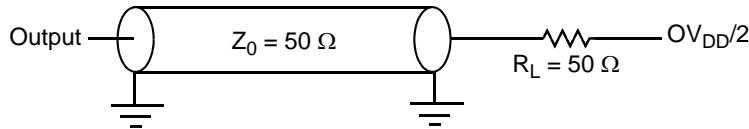

Figure 39. AC Test Load for the JTAG Interface
1. All outputs are measured from the midpoint voltage of the falling/rising edge of t_{TCLK} to the midpoint of the signal in question. The output timings are measured at the pins. All output timings assume a purely resistive 50-Ω load (see Figure 39). Time-of-flight delays must be added for trace lengths, vias, and connectors in the system.
2. The symbols used for timing specifications follow the pattern of $t_{(first\ two\ letters\ of\ functional\ block)(signal)(state)(reference)(state)}$ for inputs and $t_{(first\ two\ letters\ of\ functional\ block)(reference)(state)(signal)(state)}$ for outputs. For example, t_{JTDVXH} symbolizes JTAG device timing (JT) with respect to the time data input signals (D) reaching the valid state (V) relative to the t_{JTG} clock reference (K) going to the high (H) state or setup time. Also, t_{JTDVXH} symbolizes JTAG timing (JT) with respect to the time data input signals (D) went invalid (X) relative to the t_{JTG} clock reference (K) going to the high (H) state. Note that, in general, the clock reference symbol representation is based on three letters representing the clock of a particular functional. For rise and fall times, the latter convention is used with the appropriate letter: R (rise) or F (fall).
Figure 39 provides the AC test load for TDO and the boundary-scan outputs of the MPC8309.